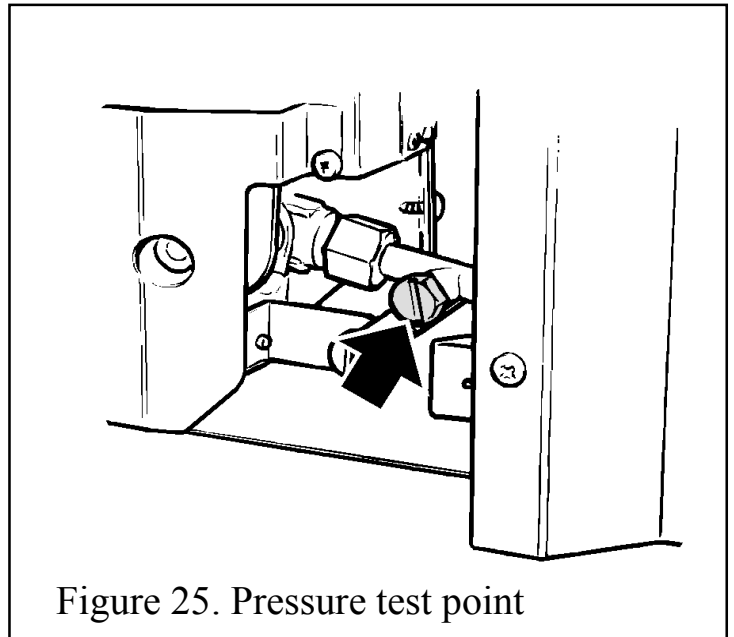

Figure 25. Pressure test point
1. Check the burner pressure by fitting a pressure gauge at the test point. The test point is on the pipe situated below the bottom right corner of the burner unit. See figure 25. Check the pressure with the appliance alight and set at maximum output.